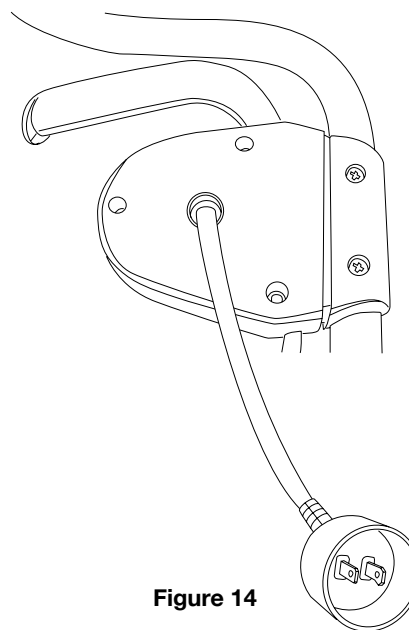

Figure 14
4. Note that the snow thrower has a polarized male plug, with one prong in the cable/plug slightly longer and wider than the other (Fig. 14). The extension cord female end should be likewise polarized so that the extension cord fits snugly into the cable/plug.